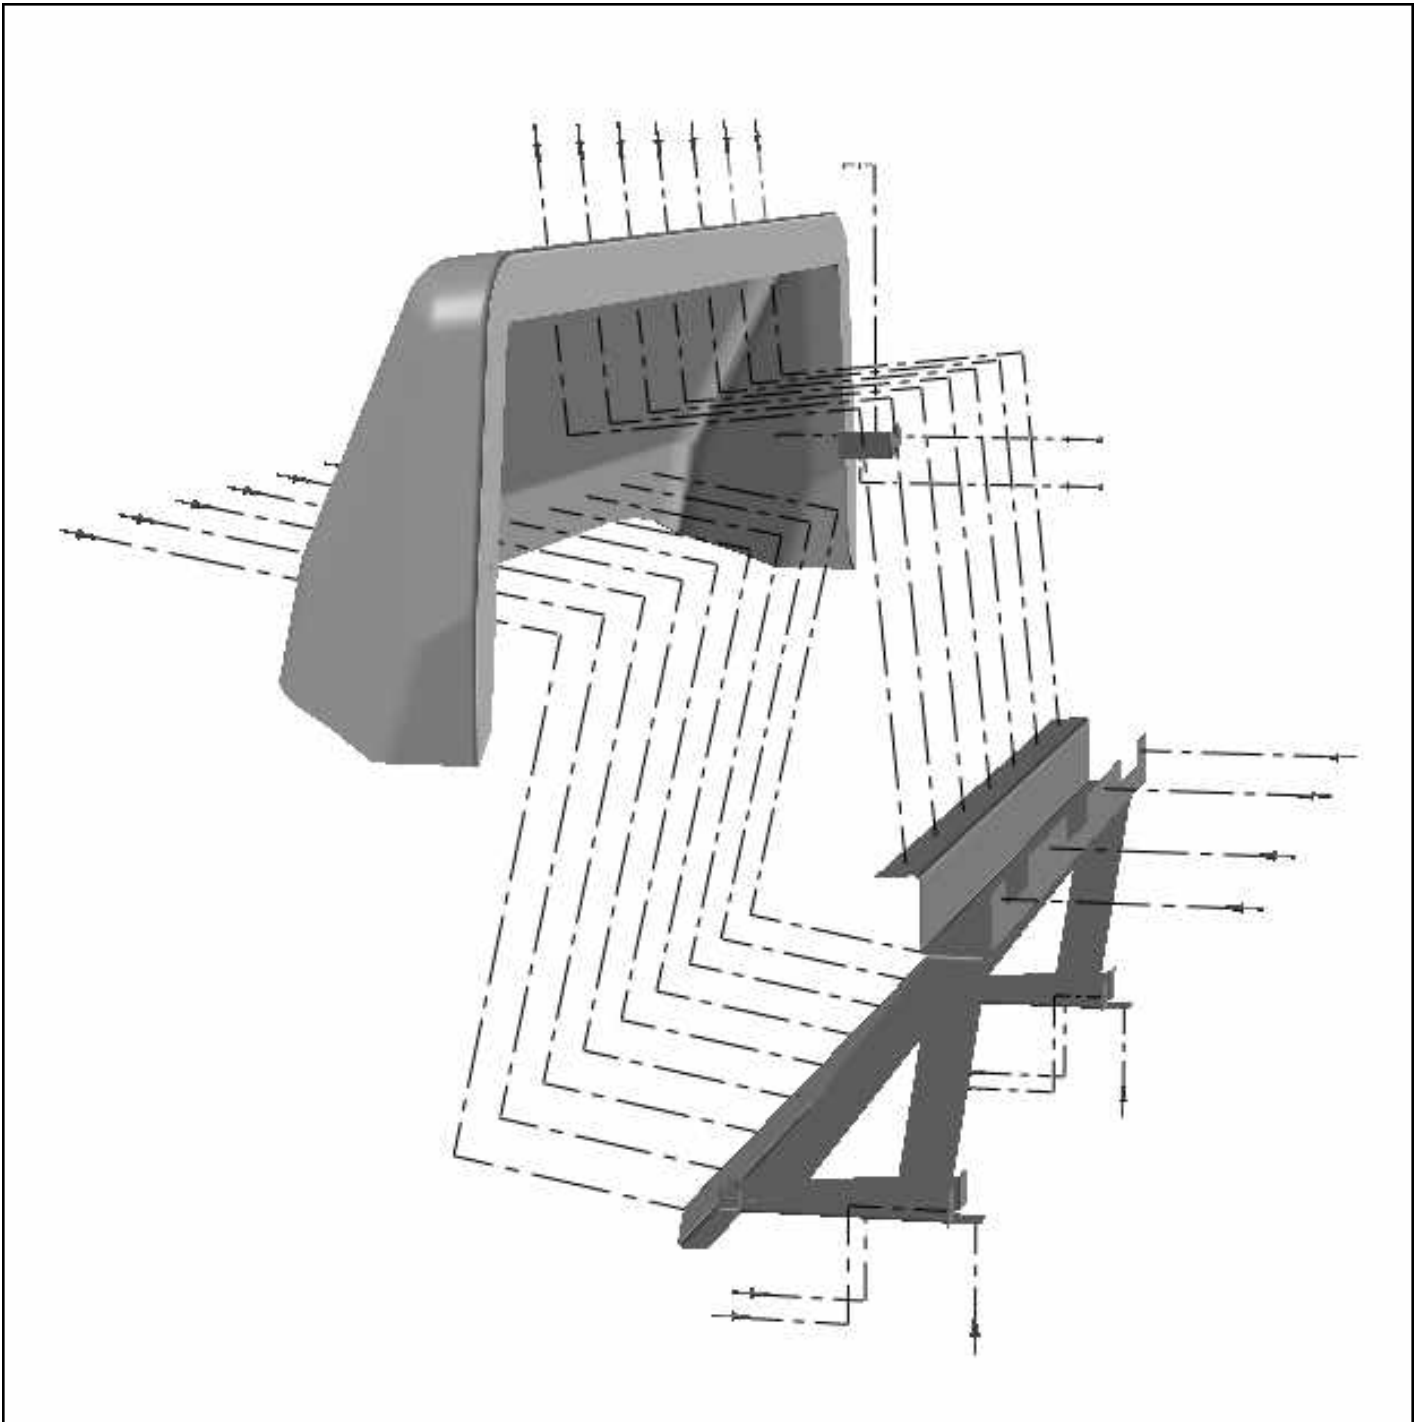

Figure 13-3 Fairing Assembly
1. Loosen attaching bolts at both sides of the fairing from the “U” bracket support that is attached to the frame assembly shown in Figure 13-3. The “U” bracket need not be removed unless damaged. If damaged, the “U” bracket can be removed from the header rail with 2 each 7/16 inches wrenches. Place the removed bolts and washers on a clean surface for re-assembly later. All 1/4" Nylok nuts should be replaced after removal.